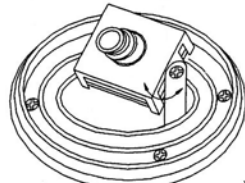

Figure 2
- STEP 3: The vertical angle can be adjusted by loosening the 2 screws as shown in Figure 2 and by turning the Camera Case vertically.